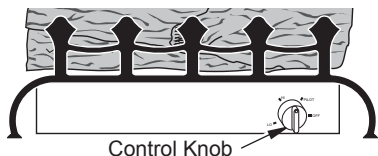

Figure 24 - Control Knob and Ignitor Button Location
- Press in control knob and turn counterclockwise ↶ to the PILOT position (see Figure 24). The ignitor will spark once. Keep control knob pressed in for 5 seconds. If control knob does not pop up when released, contact a qualified service person or gas supplier for repairs.